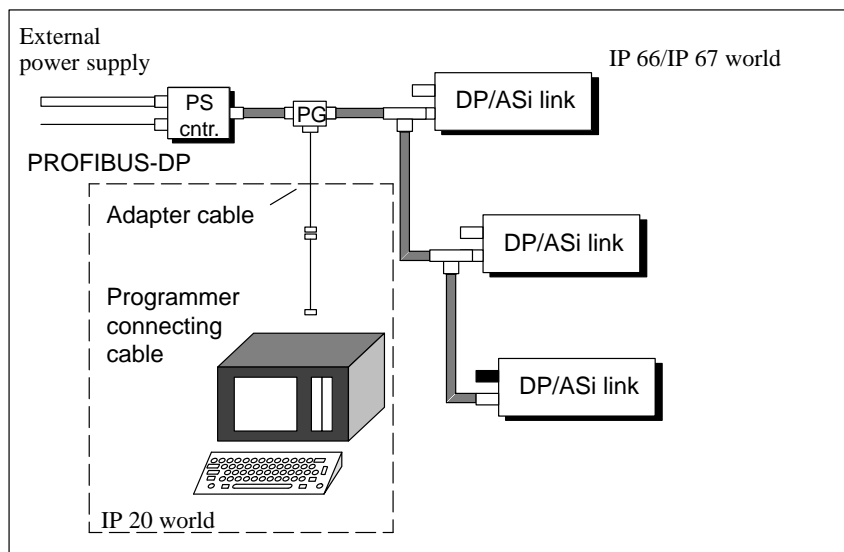

Figure 3-8 Configuration with programmer connector
**Installation** Fig. 3-8 shows a possible installation for the configuration with a programmer connector.